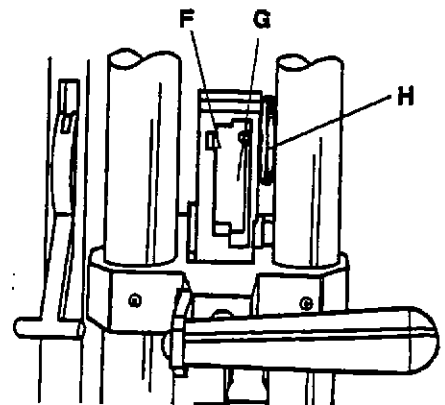

Figure 6
The cutting **HEAD** has a wide slot with two positions for the **PILLAR POSTS**, (F) and (G) in Figure 6. The hardboard cutting **PILLAR POST** fits in position (G) on the right, while the mounting board, glass, and plastic cutting **PILLAR POSTS** are placed in the left slot, (F). The **SPEED SCREW** (H) locks the **PILLAR POST** in place. You can not insert a **PILLAR POST** in the wrong slot.